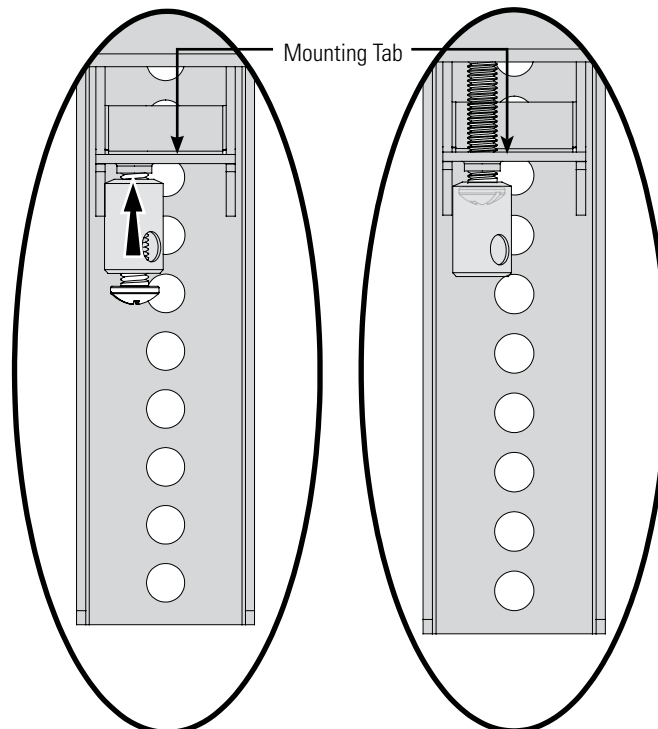

Figure 32. Tightening the Security Barrel Against the Mounting Tab
4. Tighten the locking screw and security barrel until seated in the mounting tab (Figure 32).